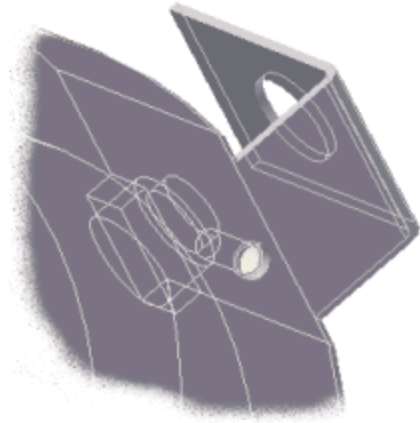

Figure 25: Clearance hole in cover.
8. Use the center point of the projected edge as the center for a 0.136-inch diameter clearance hole in the cover (use Through All for the hole termination). The cover should match Figure 25.